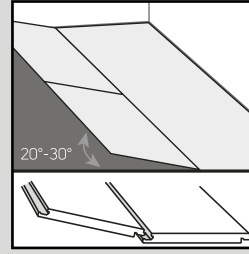
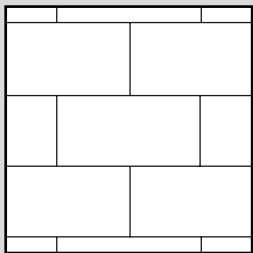
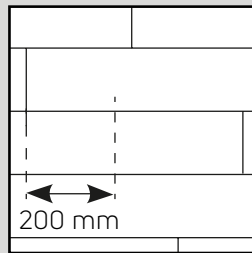

Fig. 3
Fig. 3a
Fig. 3b
- Start the second row by clicking the tongue into the groove holding the plank at an angle (approximately 30°), then push the plank/tile firmly into the groove of the first row. Install the next plank/tile by clicking the tongue and groove together along the short edge. Ease the tongue and groove together on the long side by angling the planks/tiles together (Fig. 3). Tiles and planks should be installed 'off-set' such that four corners never meet (Fig. 3a and Fig. 3b).